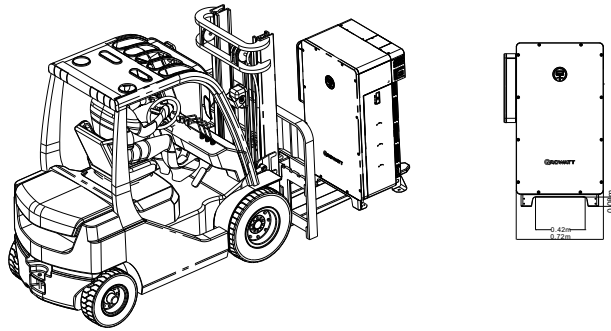

Fig 5.7 Moving the WIT Inverter with a forklift
- 2> As shown in Fig 5.7, operate the forklift to insert the tines into the pallet openings to lift the inverter and then transport it to the installation position. (the fork width should be less than 0.42 m);